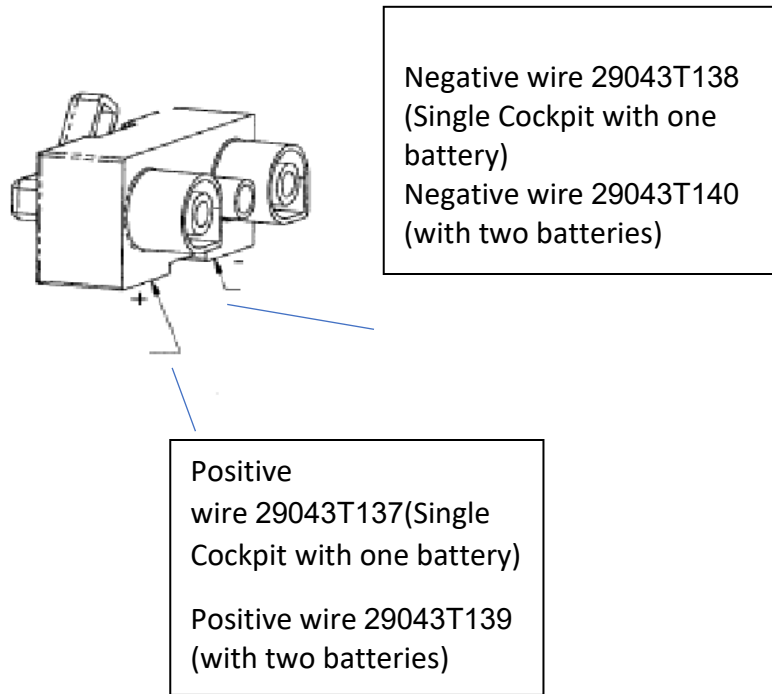

Figure 1 Wire Assembly (Except S2R-H80)
10. Use a 1/2" wrench to attach wire assembly (Figure 1) for S2R- T34 29043T137 to the positive post and wire assembly 29043T138 to the negative post. Similarly, for dual cockpit applications, use a 1/2" wrench to attach wire assembly 29043T139 to the positive post and wire assembly 29043T140 to the negative post.